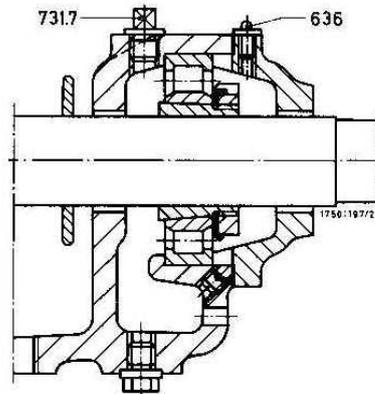

Fig. 10 - Grease-lubrication bearing construction
See Fig. 10 "Bearing and oil requirement table" for precise bearing designation and size for the individual pump sizes. Thrower (507) on shaft (210) prevent the penetration of any leakage liquid from the stuffing box into the bearing housings.
Portable (mobile) pumps, and installed on board ship have grease-lubricated bearings (see Fig. 10). Use a good quality lithium soap ball and roller bearing grease, free of resin and acid, and possessing rust preventive properties. The grease should have a penetration number situated between 2 and 3, corresponding to a worked penetration situated between 220 and 295 mm/10. Its drop point should be not less than 175° C.